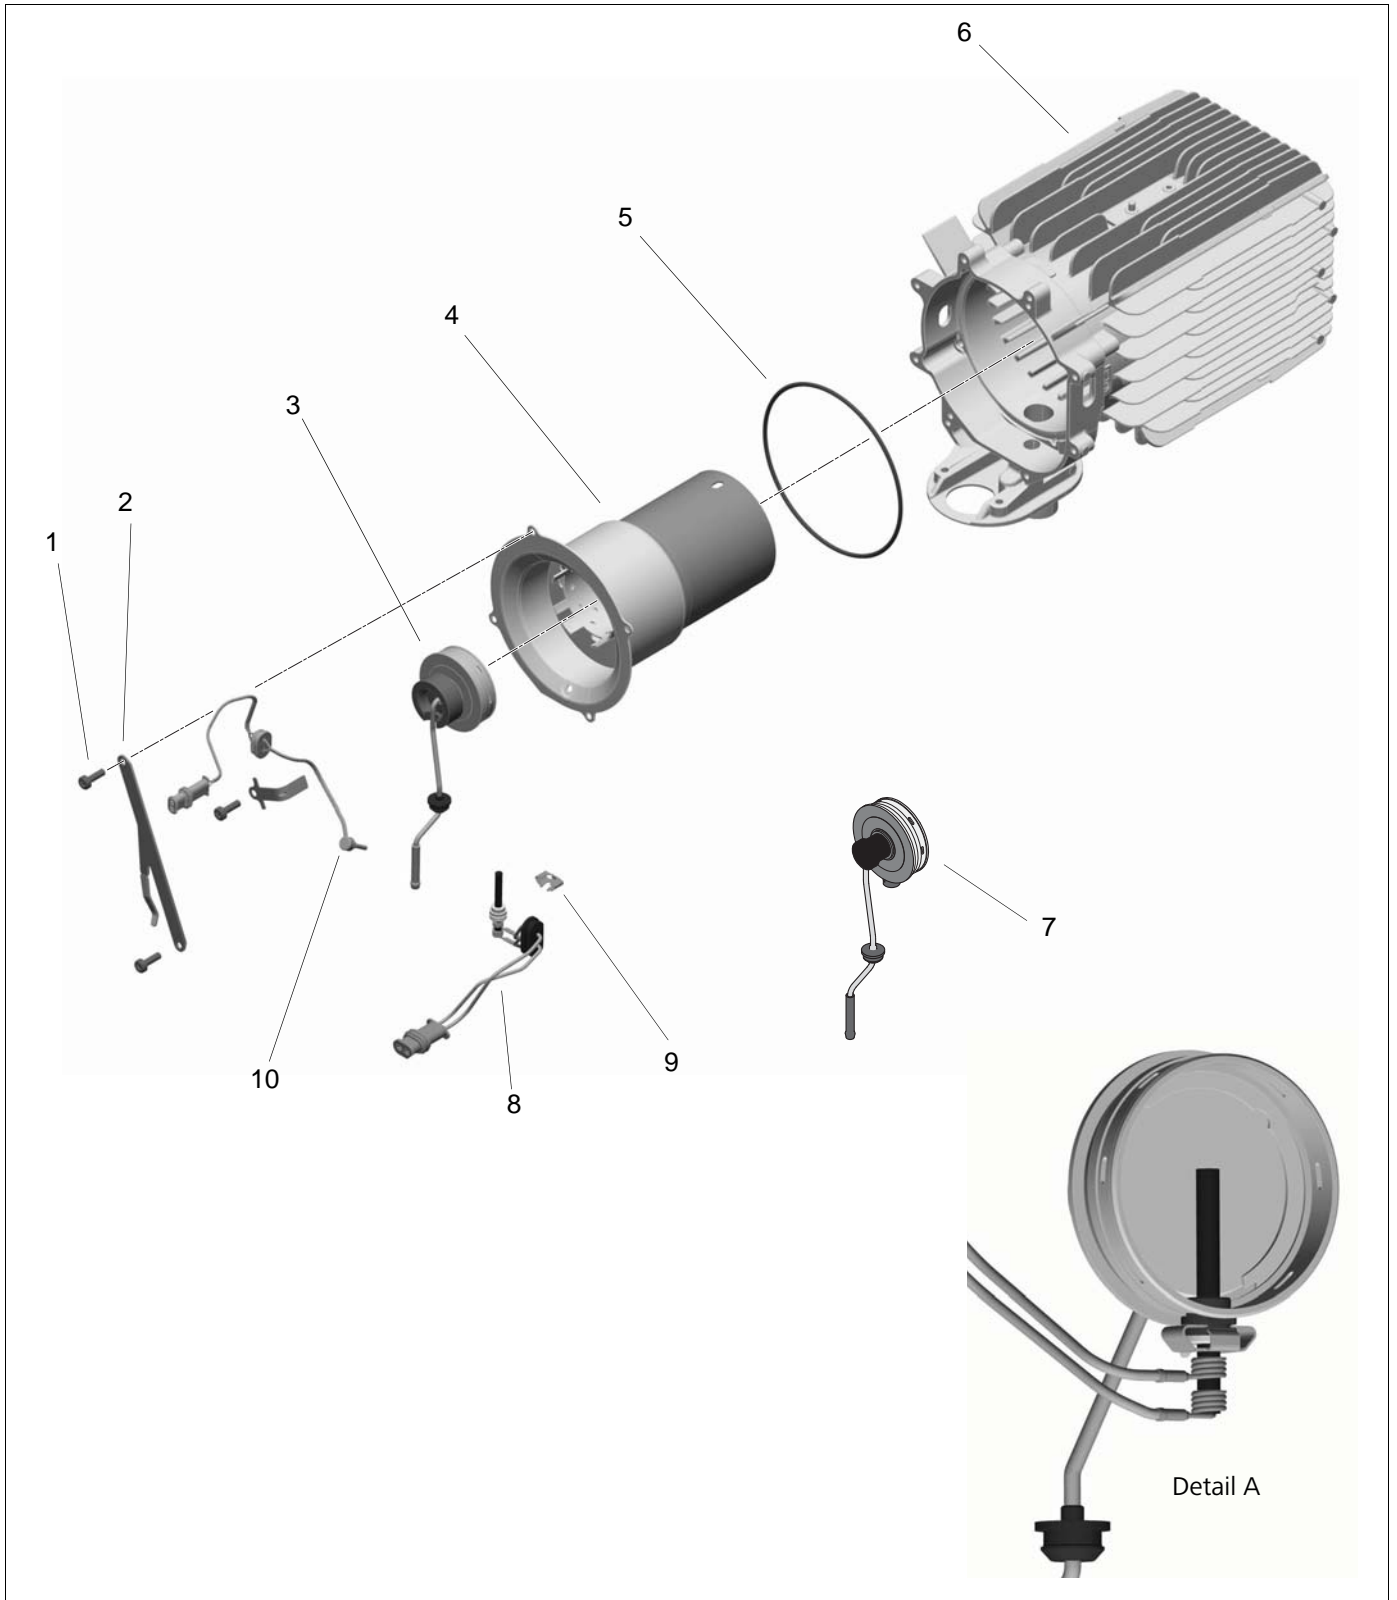

Fig. 907 Replacing evaporator mount, glow plug, exhaust temperature sensor, combustion pipe and heat exchanger
5. Remove 2 screws (1, Fig. 907) and take off spring clip (2). Discard spring clip (2).
6. Press out cable grommet on exhaust-temperature sensor connection cable toward inside out of heat exchanger (6).
7. Pull out exhaust temperature sensor (10) and discard.
1. Guide new exhaust temperature sensor (10, Fig. 907) into hole provided for this purpose. The cable must face toward the hole in the heat exchanger (6).
2. Fit new spring clip (2) with 2 screws (1).
6. Press grommet of exhaust temperature sensor (10) from outside inward into heat exchanger (6) and remove exhaust temperature sensor (10).
1. Guide glow plug (8, Fig. 907) into evaporator mount (3 or 7) and secure with retaining clip (9) as shown in Fig. 907, Detail A.
1. Fit new round sealing ring (5, Fig. 907) into heat exchanger (6).
2. Secure combustion chamber (4) with 2 screws on opposite sides (1).
3. Tighten screws (1) to  $4 \pm 0.4$  Nm.